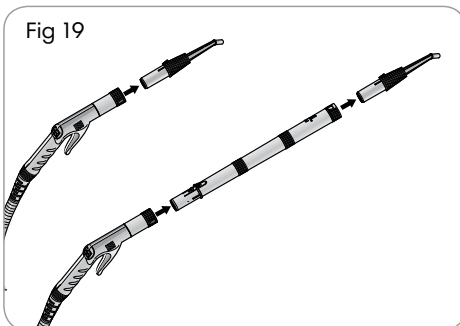

Fig 20
- Discharge any residual air from the boiler during the heating stage, by pressing switch 2 (Fig. 20) and pressing the steam delivery button 1 (Fig. 20). This operation is important, given the power of the generator to prevent excessive rise in pressure.
- The inox brush is ideal for cleaning stainless steel surfaces without causing contamination or surface damage. Fig 20.